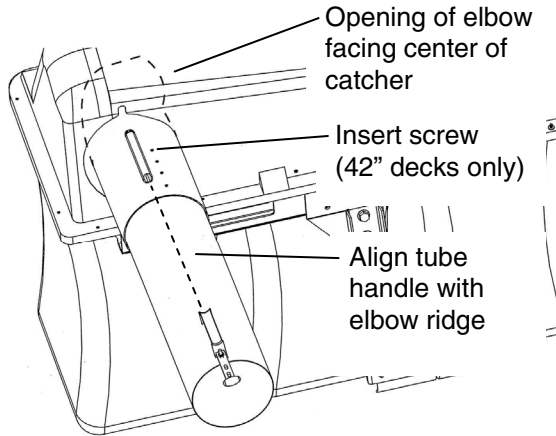

Figure 7
1) Slide the upper elbow tube (1733885) into the cover, aligning the ridges with the notches in the cover opening. The opening of the elbow tube must face towards the center of the catcher. See Figure 7.
2) Slide the clear middle tube into the upper elbow tube. The handle on the middle tube must be in line with the top ridge on the elbow tube. See Figure 7.
**Note:** For 42" decks, align the hole in the clear tube with the hole nearest the elbow in the upper tube, and secure with supplied screw. See Figure 7.